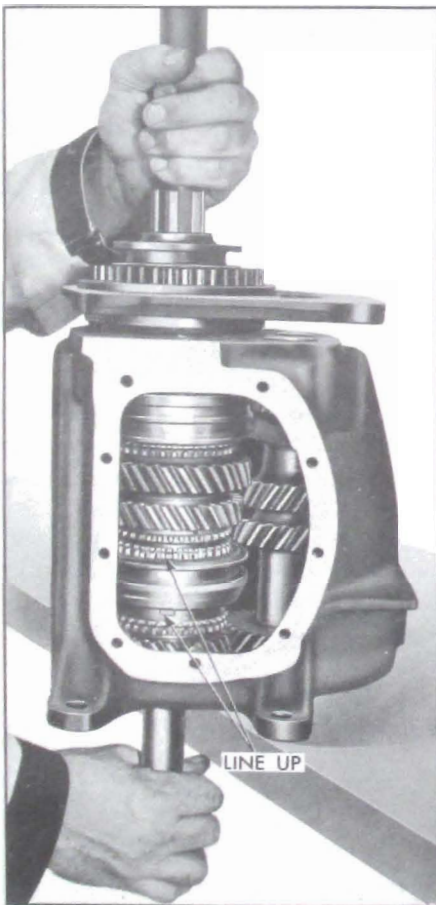

Figure 4-75—Installing Mainshaft Assembly
12. Lower the mainshaft assembly into the case, making certain that the notches on the fourth speed synchronizing ring correspond to the keys in the clutch assembly. See Figure 4-75.